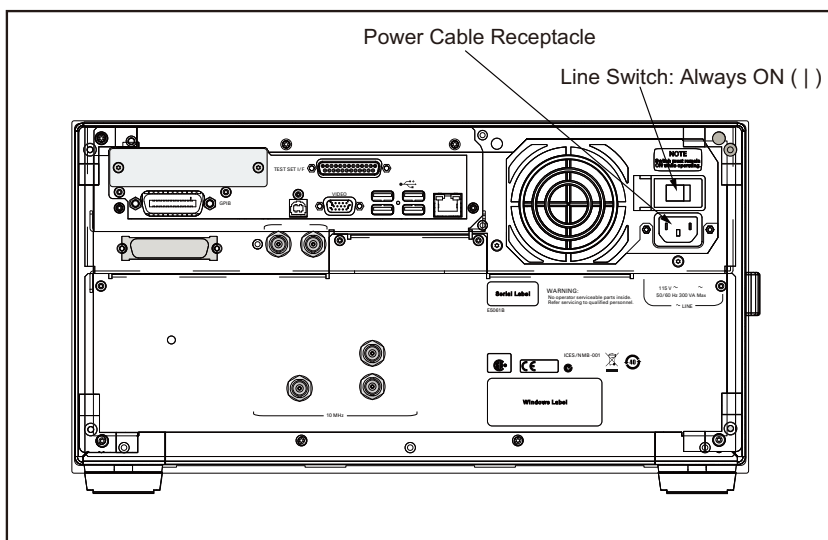

Figure 5 Line switch (Always ON) and power cable receptacle
Step 2. Use the supplied cable to connect between the power cable receptacle (Figure 5 on page 31) on the rear panel of the E5061B and a three-wire power outlet with the grounding prong firmly connected in the ground slot.